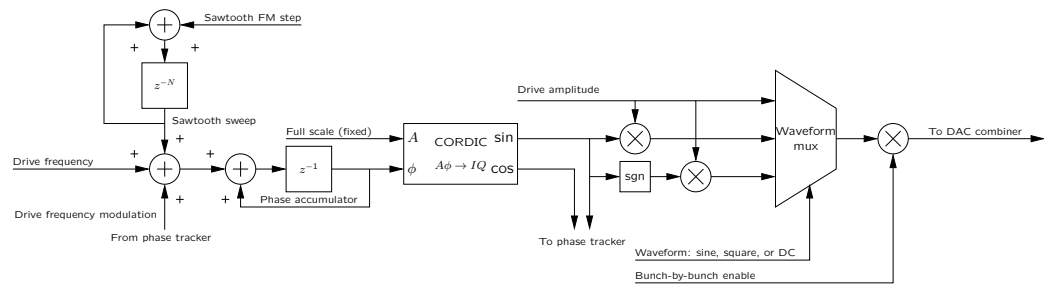

Figure 15: Drive source block diagram
Three independent drive sources are available in iGp12-372F **FPGA**, 0, 1, and 2. Each source is based on an **numerically controlled oscillator (NCO)** with sawtooth **frequency modulation (FM)** capability and bunch-by-bunch enable. Three output waveform types are supported: sinusoidal, square, and **direct current (DC)**. Block diagram of a drive source is shown in Figure 15.